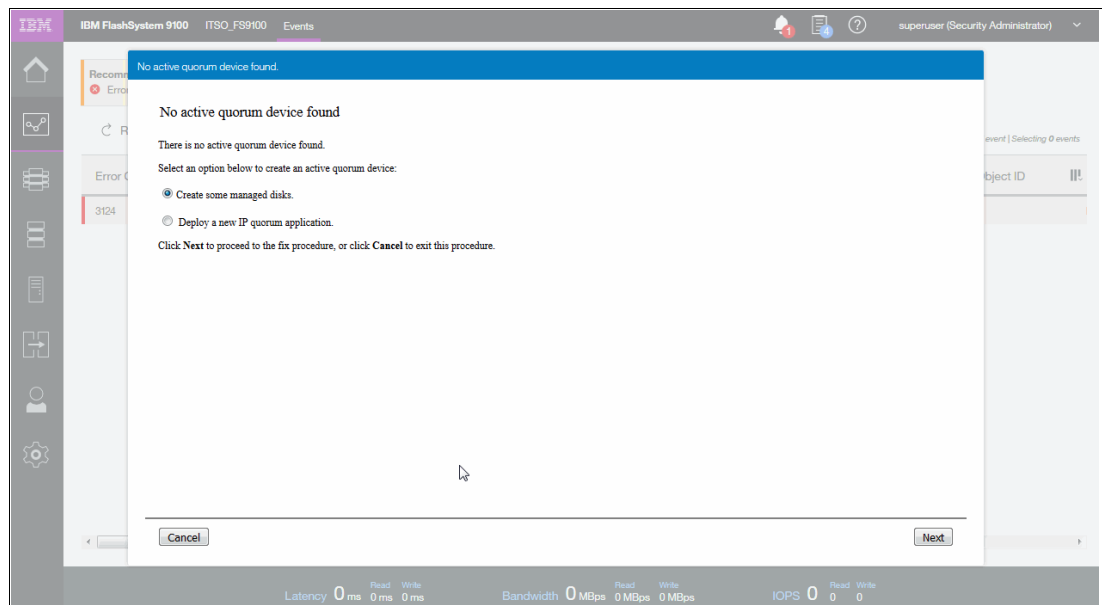

Figure 5-46 Create some managed disks
12. Select **Create some managed disks** and click **Next**, as shown in Figure 5-46.